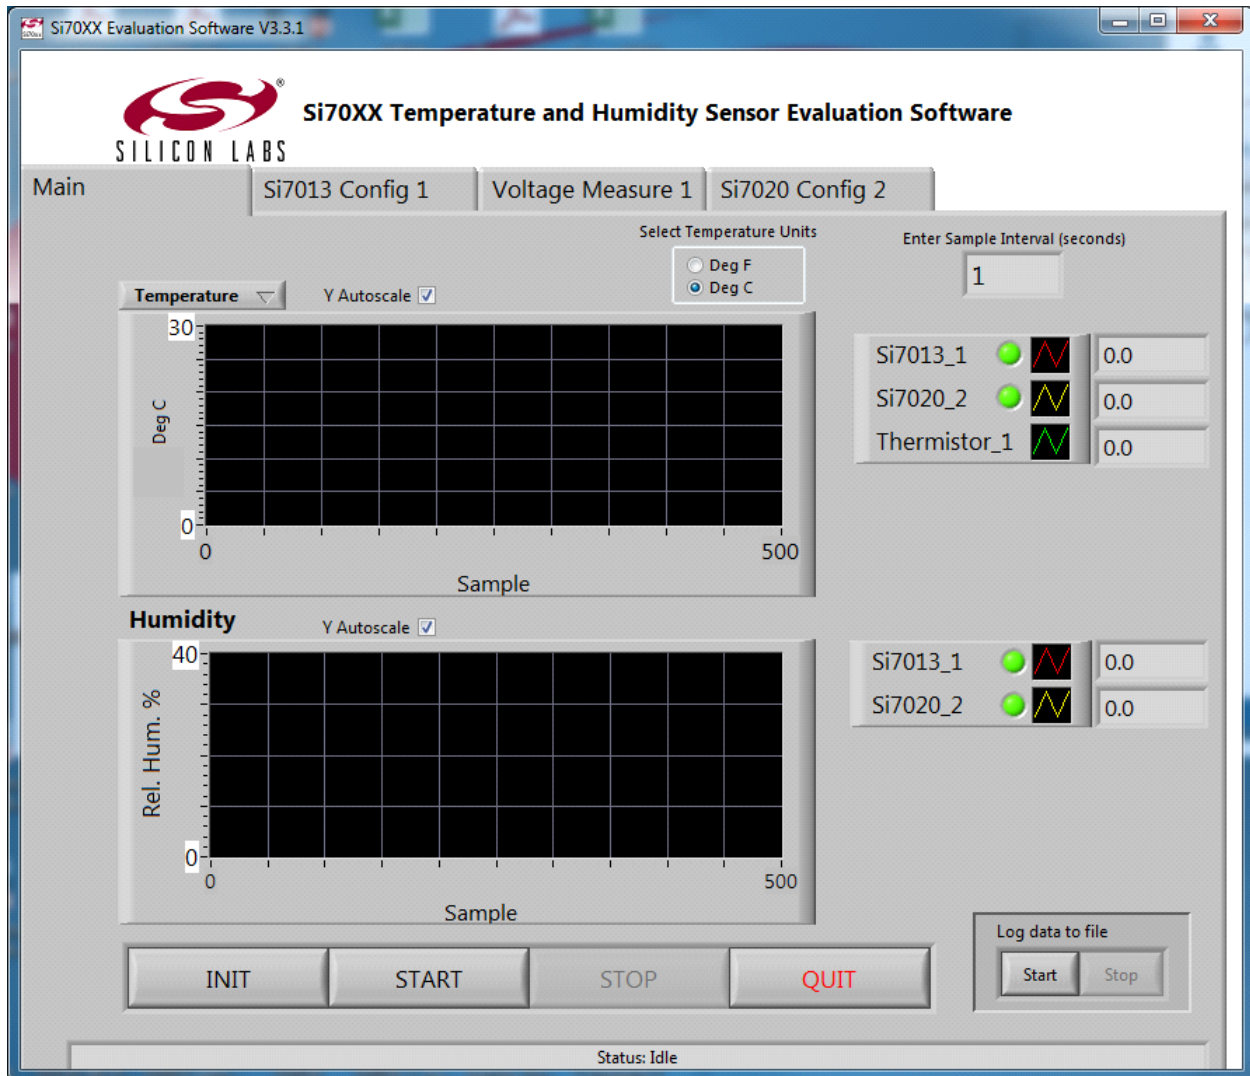

Figure 9. Configuration Screen
- Updated Figure 9, "Configuration Screen," on page 9.